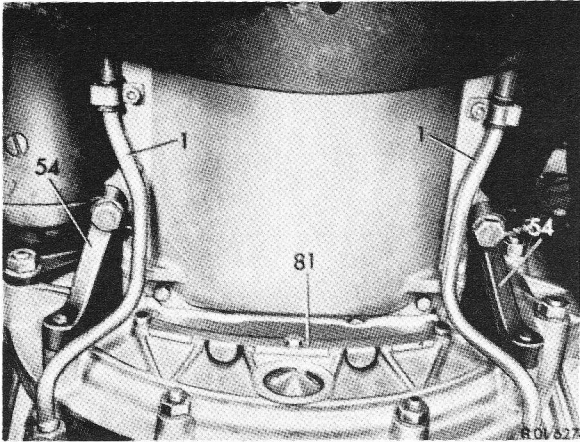

Fig. 2
**8** On vehicles with automatic transmission, disconnect transmission fluid lines (1) and remove (Fig. 2).
**9** Unscrew cover plate (81) and both supporting angle brackets (54) (Fig. 2).